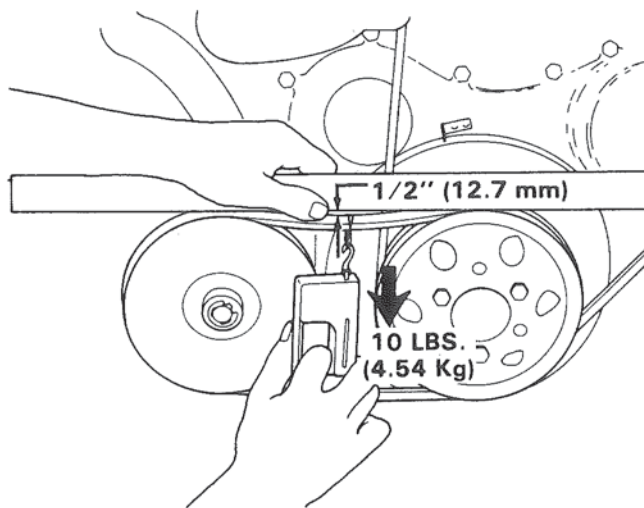

Figure 24. Checking Raw Water Drive Belt Tension.
1. Place a straight edge on top of belt between water pump and crankshaft pulley. Figure 24.